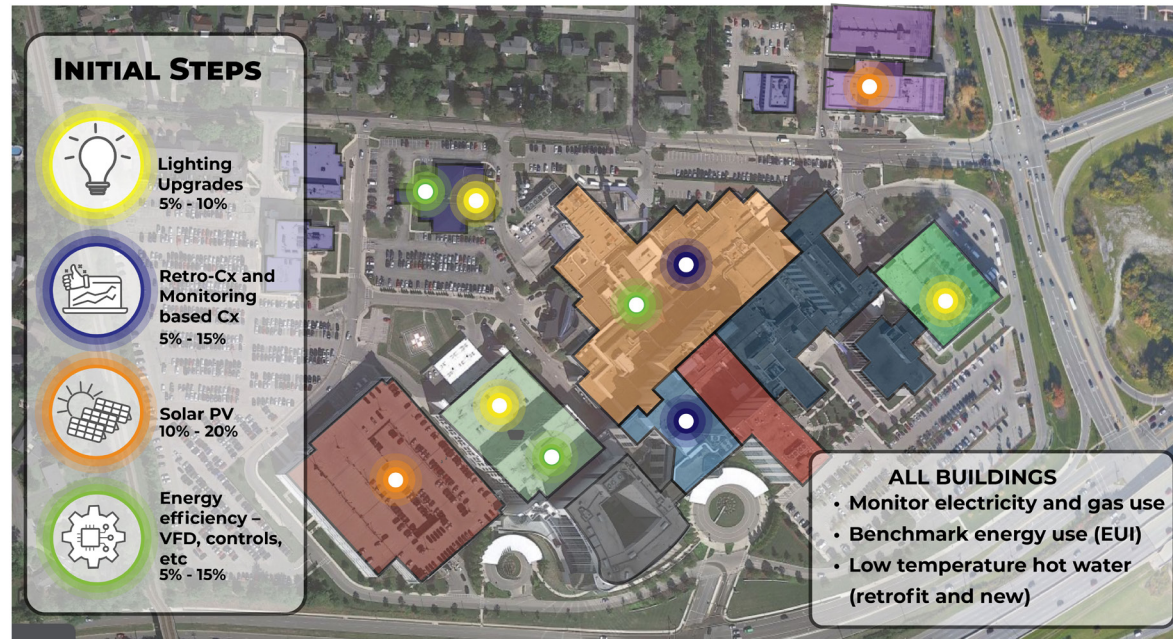

Figure 14
Step 1: Initial steps (Figure 14)